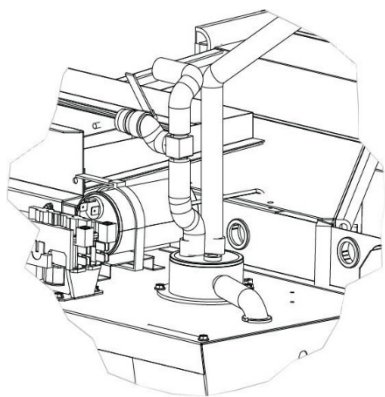

Figure 43 Drain Tube Disconnection
4. Disconnect drain tubes from the top of heating condensate trap with long nose pliers (**FIGURE 43 – Drain Tube Disconnection**)